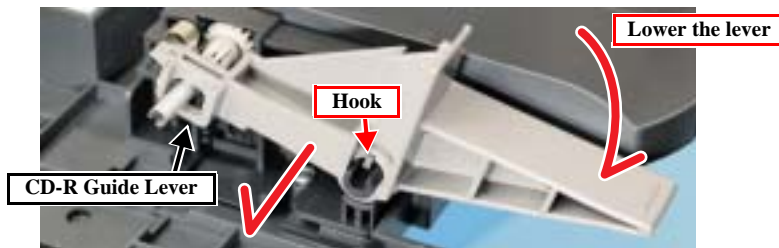

Figure 4-40. Removing the CD-R Guide Lever
3. Release the hook, and remove the CD-R Guide Lever. (Fig. 4-40)